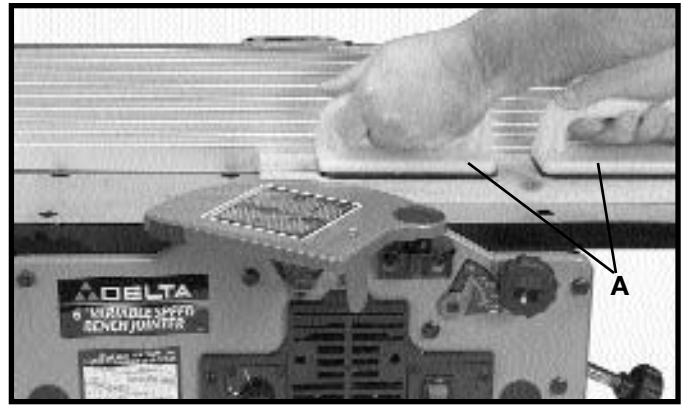

Fig. 37
A set of push blocks (A) Fig. 37, is supplied with your jointer and should be used whenever possible to minimize all danger to your hands. Fig. 37, illustrates using the push blocks properly.